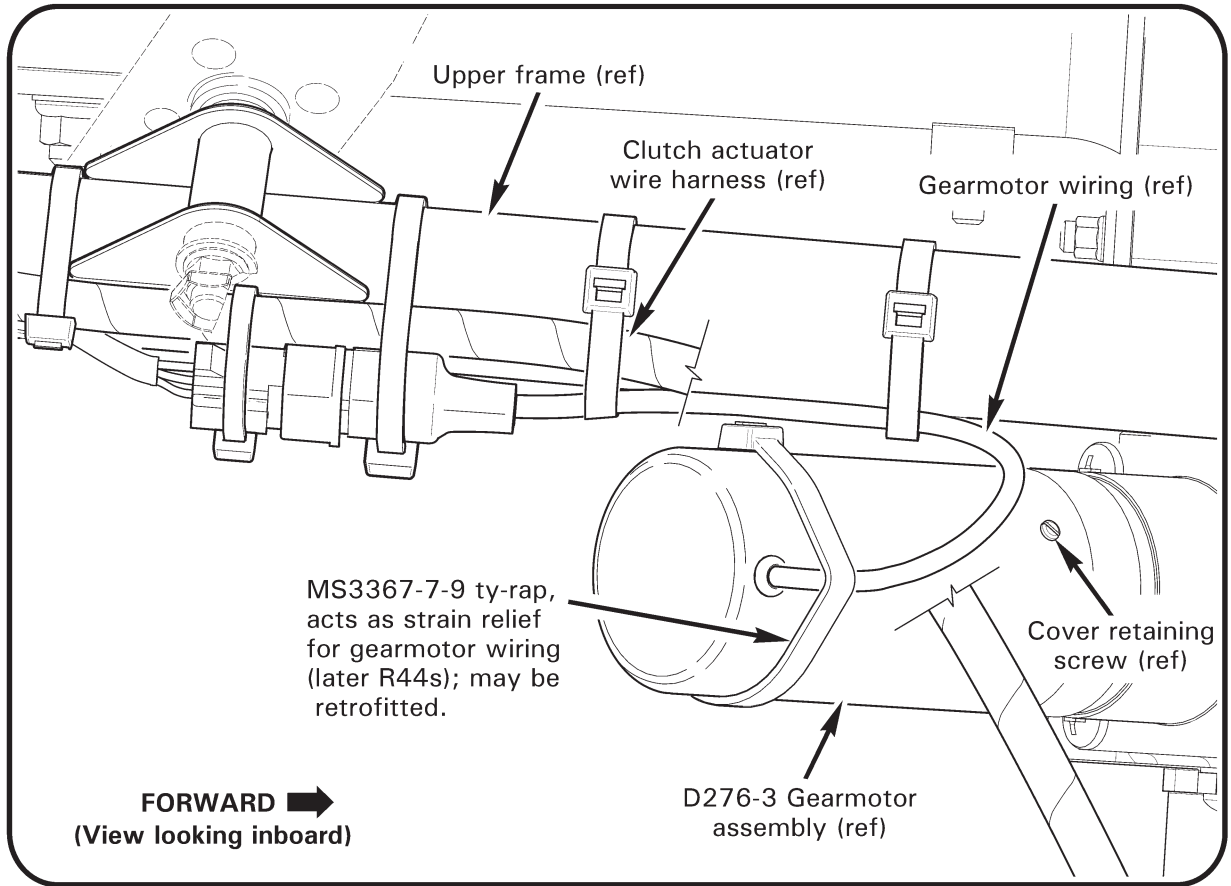

FIGURE 1
2. Refer to Figure 1. Visually verify gearmotor wiring is not kinked or pinched and exhibits slack between gearmotor and upper frame.